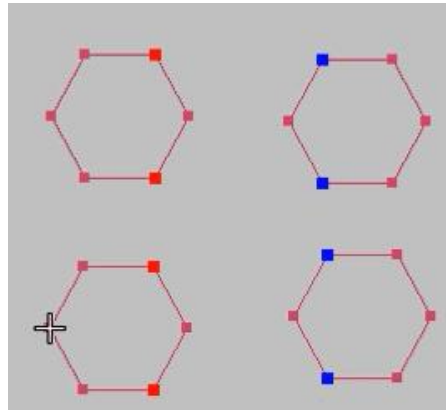

Figure 2
4. Left click on the "center line" as shown in the figure and click on the needle point position of the object (as shown in Figure 2). After adding the object with the center line position, press the "Enter" key to confirm (as shown in Figure 3).